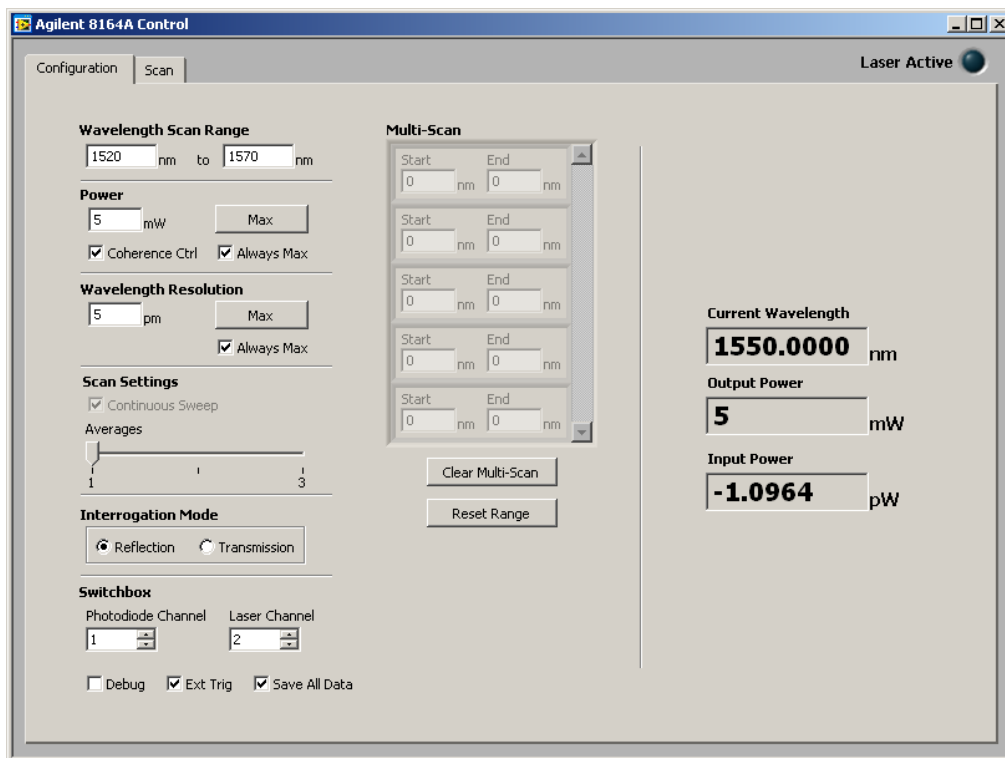

Figure 2.11.1: Configuration window on Agilent 8164A control software
1. Click on the Configuration tab of the window shown in Figure 2.11.1